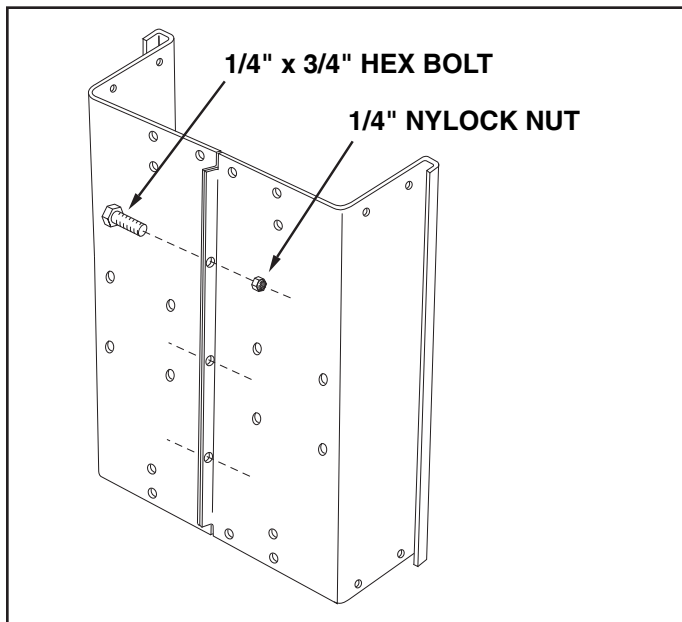

FIGURE 2
3. Position cart body halves upright on a smooth level surface such as a garage floor or a paved driveway. See figure 2.
4. Assemble halves together using three 1/4" x 3/4" hex bolts and 1/4" nylock nuts as shown in figure 2. **Do not tighten yet.**